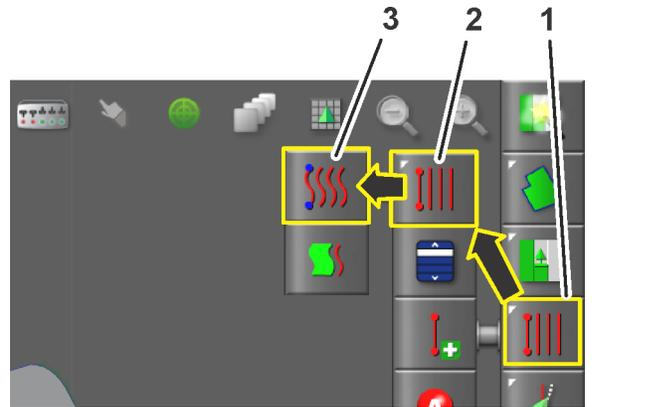

Figure 14
1. Switch the guideline type to a curve guideline (Figure 14).